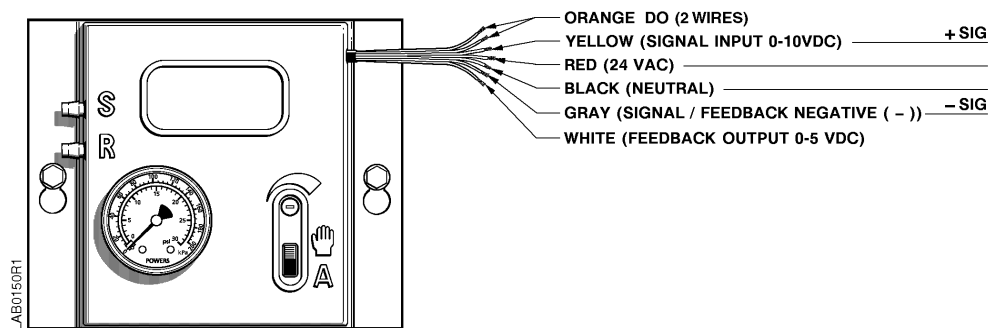

Figure 6. AO-P Transducer Wiring Connections.
4. The wire bushing can be removed and a standard 1/2-inch conduit knockout fitting may be installed. Connect the cable to the AO-P Transducer (Figure 6).